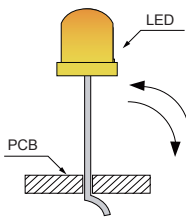

Fig. 9
- Do not bend the leads more than twice. (Fig.9)